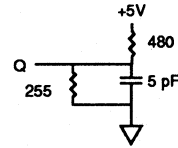

Fig. 2 OUTPUT LOAD EQUIVALENT
- ^tHZCE and ^tHZWE are specified with CL = 5pF as in Fig. 2. Transition is measured ± 500mV from steady state voltage.